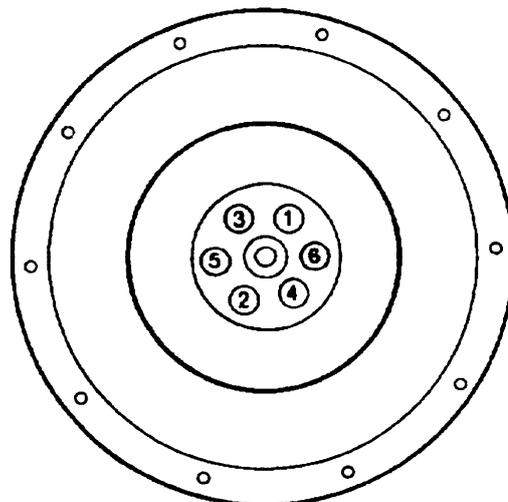

Figure 50 Flywheel Bolt Tightening Sequence
- vv. Position the flywheel on the crankshaft, smear the threads of the retaining bolts with engine oil and install the bolts. Lock the flywheel to prevent it from turning and tighten the bolts to 142 to 172 N.m (105 to 127 lbf.ft) in the sequence shown in Figure 50.